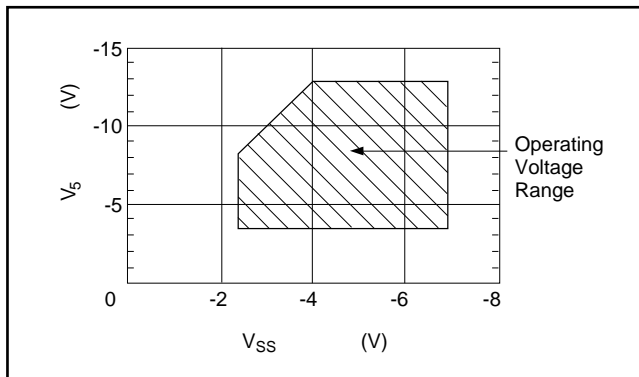

Figure 5.4
- *10. Operating voltage ranges of VSS and V5 (see Figure 5.4).